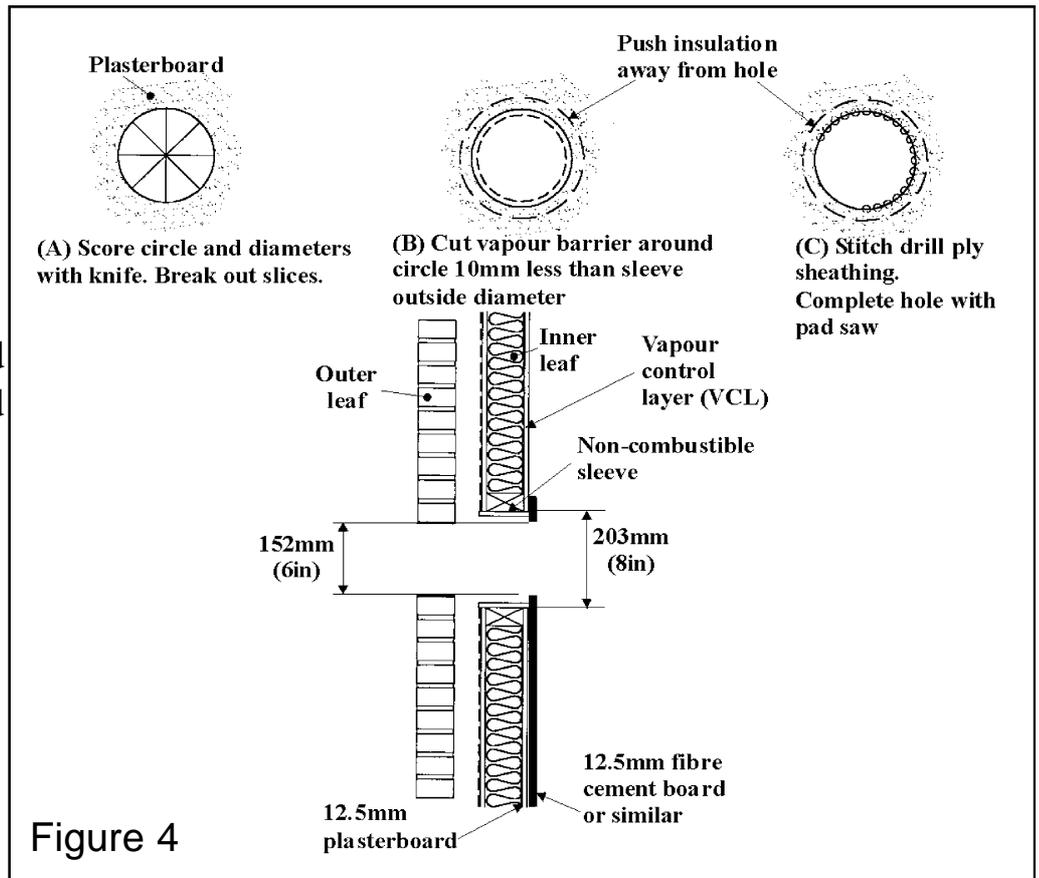

Figure 4
- Since the flue will pass through combustible material in the inner leaf of the wall, a non-combustible sleeve 203mm (8in.) diameter will be required round the flue. See figure 4.